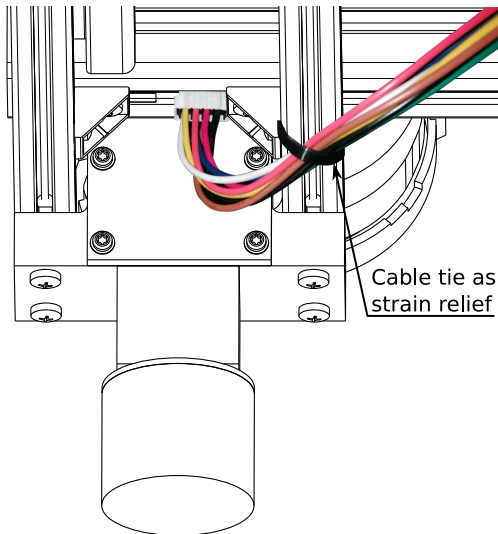

Figure 37: A cable tie firmly attaches the cable close to its connector. The cable is locked in place, reducing wear and tear on the connector.
It is absolutely paramount to attach each cable to a solid attachment point close to its connector. A good example is using cable ties wrapped around an aluminium profile. See Figure 37 below.
- on the Molex cable as it attaches to the actors (see Figure 37,)